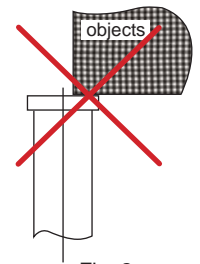

Fig. 2
- Never adjust the safety valve (18), it has been set at the factory to prevent overloading. Components 10, 11, 18, 19, 20, 21 are all part of the overload protection.
- Never lift on the edge of jack's head (Fig. 2). The load shall always be centered to the jack's centerline.